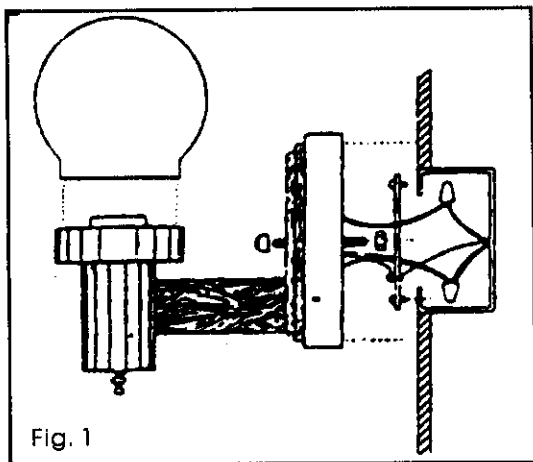
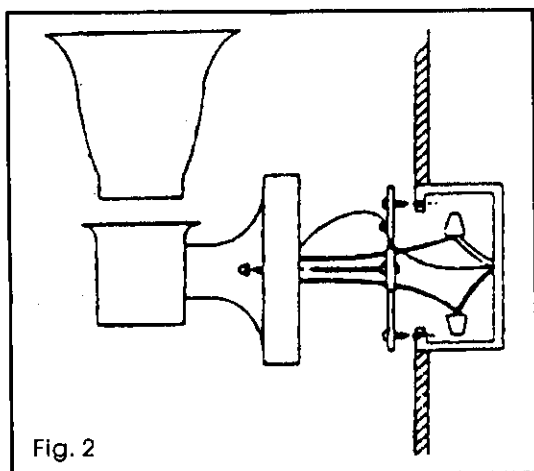
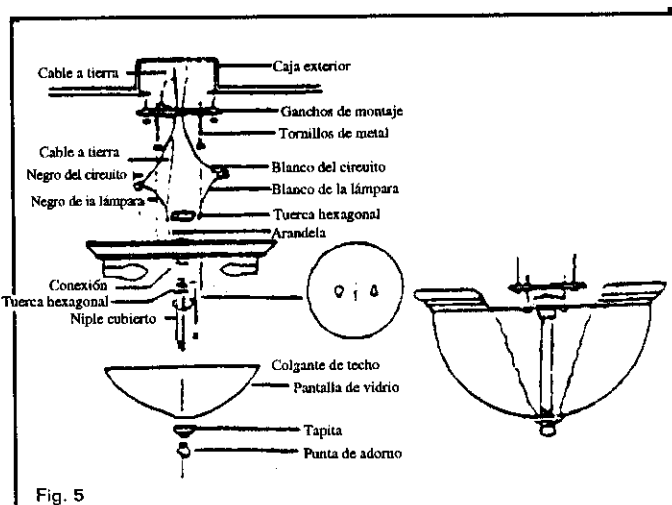

Fig. 1
Fig. 2
Fig. 5
2. Some fixtures are provided with a threaded nipple (see Fig. 1 and Fig. 5) or machine screws (see Fig. 2 and 2A) for attaching the fixture to the mounting bracket. If your fixture is supplied with a threaded nipple screw, the nipple 3 complete turns into the mounting bracket and lock into place with a hexagon lock nut. If your fixture is supplied with machine screw, thread the machine